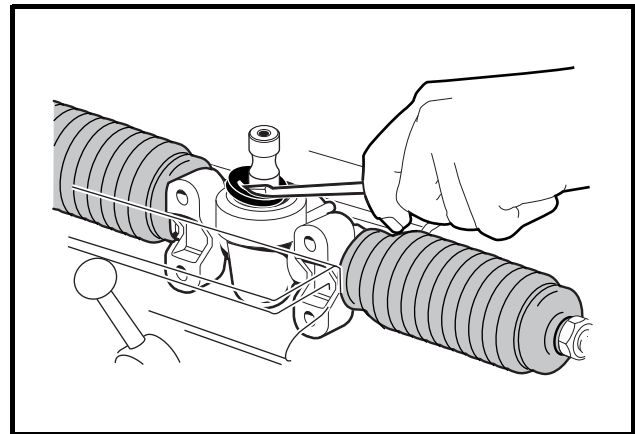

**Figure 7-11 Dust Bellows Clamp**
3. Remove both bellows clamps (metal clamps or plastic wire ties) (**Figure 7-11, Page 7-8**).